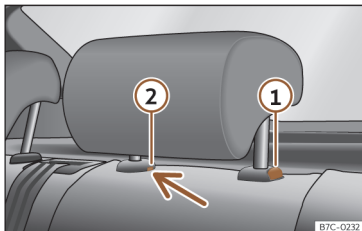

Fig. 109 Rear headrest: removal.
- Press button»» Fig. 109 ①, while simultaneously pressing on the security hole ② with a flat screwdriver a maximum of 5 mm wide, and remove the headrest.